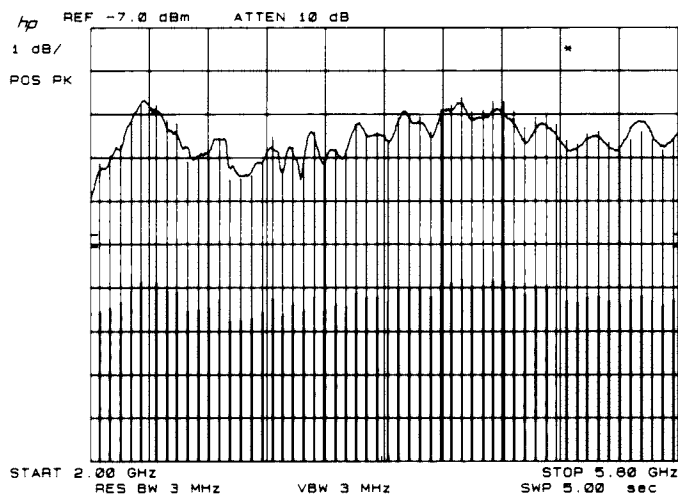

Figure 3-96.
78. Press **SWEEP** **(SINGLE)** on the spectrum analyzer and wait for the sweep to complete (150 seconds) and the **SWEEP** LED to turn off. As the spectrum analyzer tunes from 2.0 GHz to 5.8 GHz, the spectrum analyzer frequency response should be displayed as **TRACE B**, as shown in Figure 3-96.